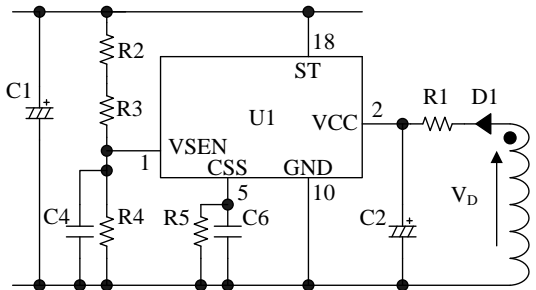

Figure 8-11 VCC pin peripheral circuit
Figure 8-11 shows the VCC pin peripheral circuit.
During the IC operation, the rectified voltage from the auxiliary winding voltage, V_D , of Figure 8-11 is a power source to the VCC pin.
- The value of C2 in Figure 8-11 is increased and/or the value of R1 is reduced.